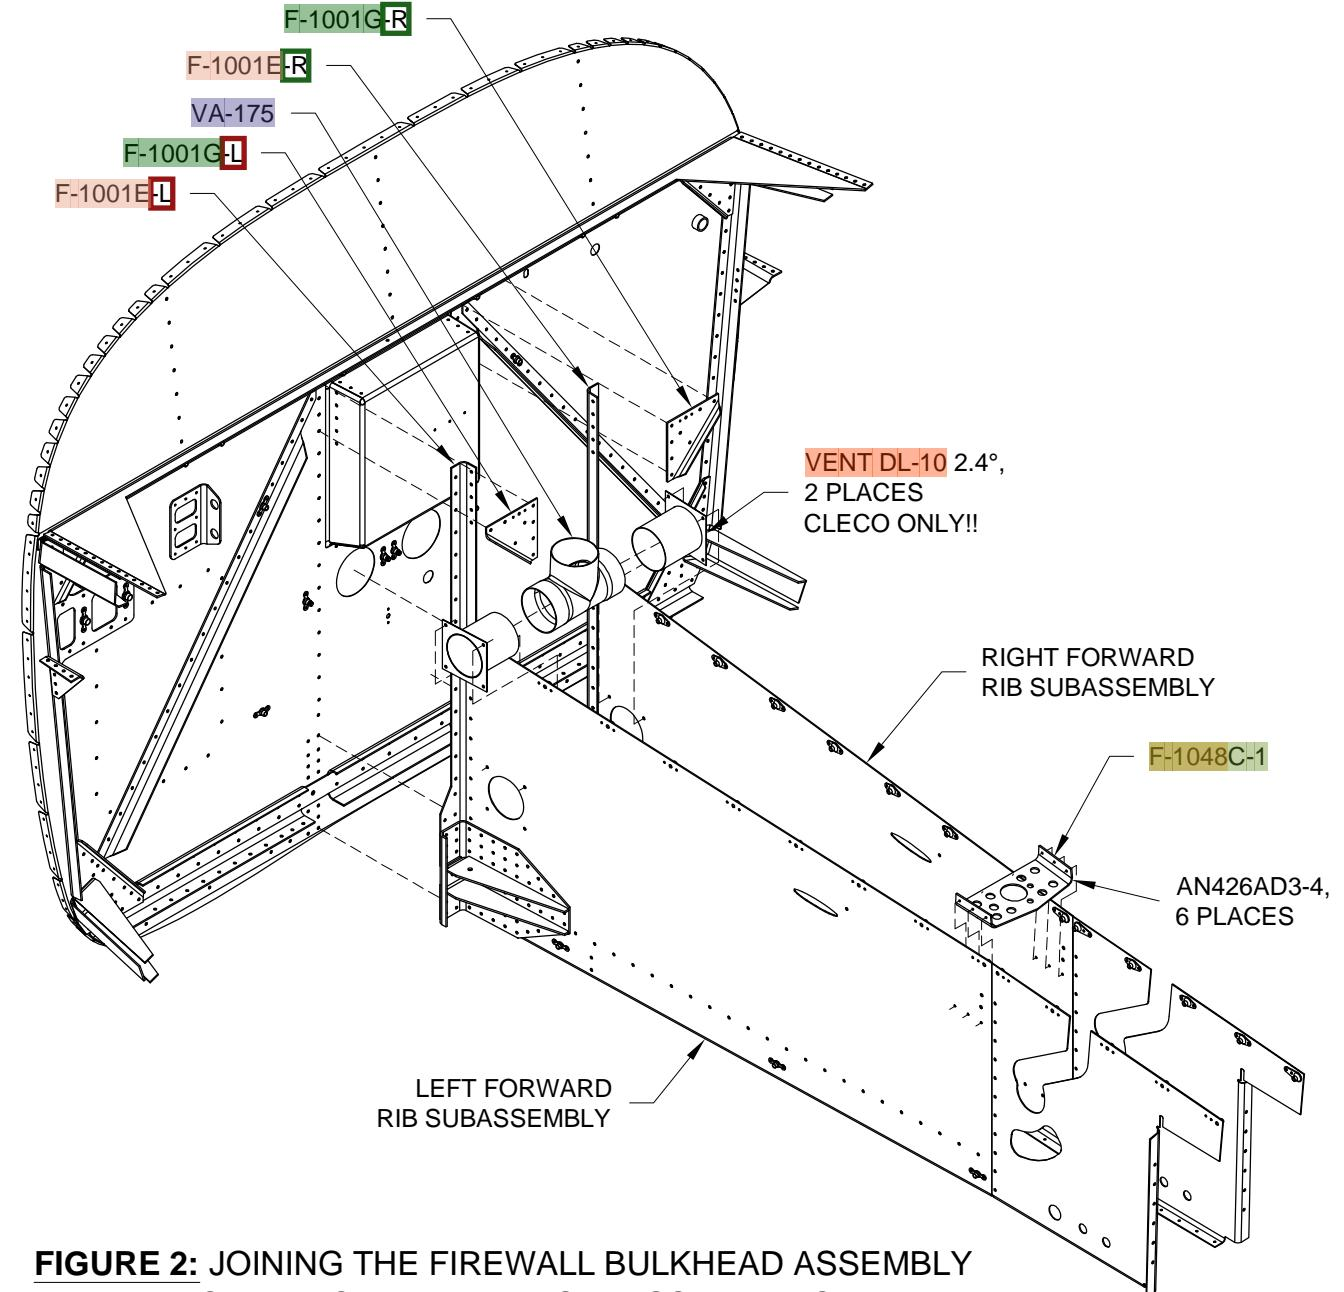

FIGURE 2: JOINING THE FIREWALL BULKHEAD ASSEMBLY TO THE FORWARD RIB SUBASSEMBLIES
Step 8: Rivet the Left and Right Forward Rib Subassemblies and **F-1001G-L** and **-R** Gusssets to the Firewall Bulkhead Subassembly per the callouts in Page 27-5, Figure 1. Rivet the **F-1048C-1** Fuel Valve Bracket to the the fwd fuselage ribs per the callouts in Figure 2. Insert the **VENT DL-10** 2.4° Flanged Ducts into the **VA-175** Heat Duct Tee, then cleco the flanged ducts to the fwd fuselage ribs per the callouts in Figure 2.